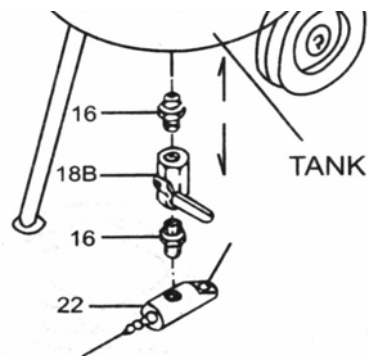
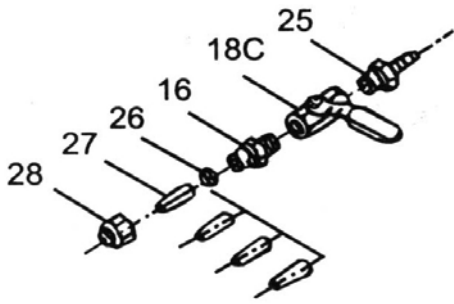
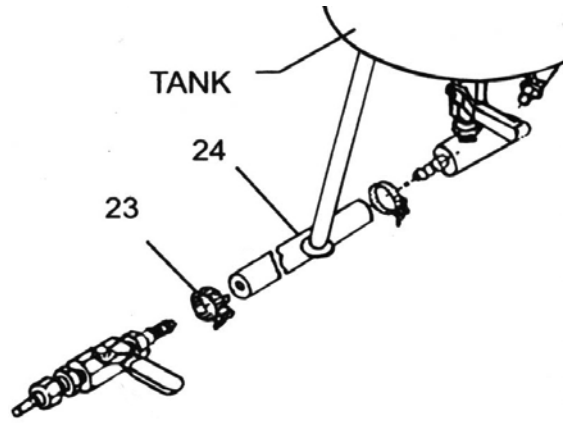

Fig. 4
Fig. 5
Fig. 6
4. See figure 4 for installation of the bottom valve (18-B) on the underside of the sandblasting tank. Install the following four parts in sequence: nipple (16), bottom valve (18-B), nipple (16) and outlet pipe (22).
5. See figure 5 for assembly of the nozzle's shut-off valve (18-C). Select one of the four nozzles (27). This is not a permanent choice. The nozzles can be changed depending on the work being done. Screw the coupling (25) into the valve (18-C). Screw the nipple (16) into the valve. Screw the seal (26) onto the nipple. Then install a nozzle (27) and the dome-shaped nut (28).
6. See figure 6 for assembly of the bottom valve (fig. 4) and the shut-off valve (fig. 5). Place the two hose clamps (23) around the hose (24). Place one end of the hose on the outlet pipe (22) and the other end on the nipple (25). Ensure that the hose has been pushed properly onto the nipples. Tighten the hose clamps securely – they have to withstand a pressure of up to 8 bar.